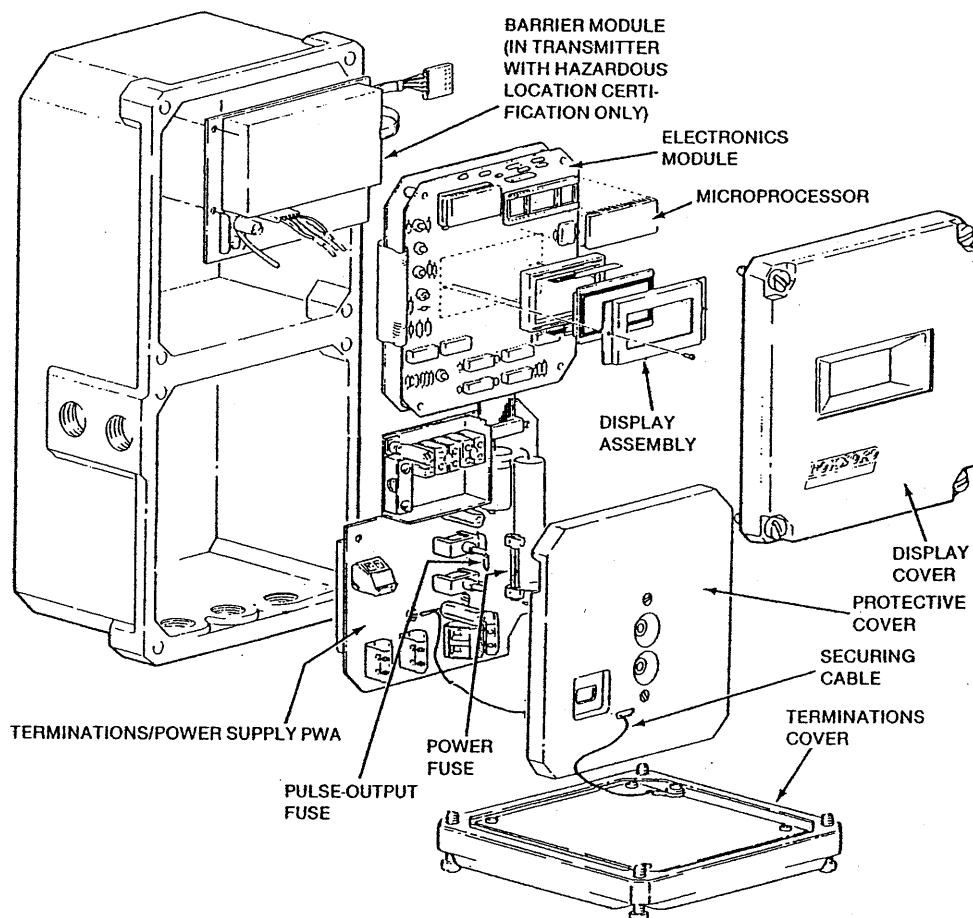
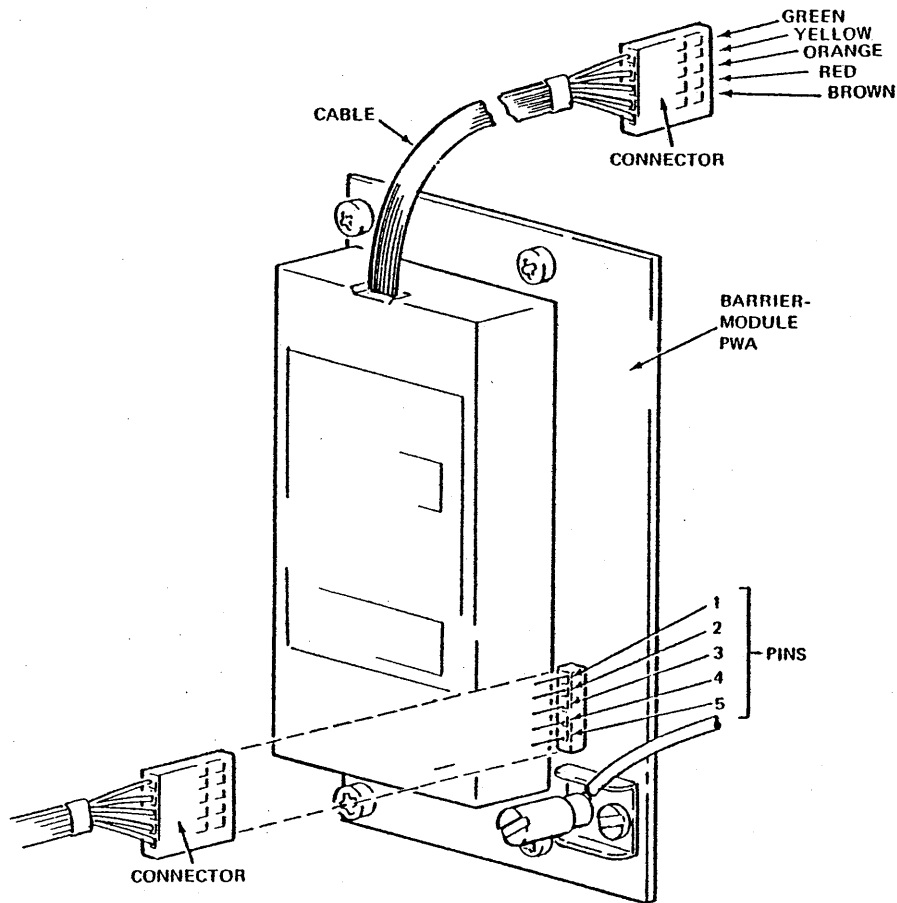

Figure 2.
Figure 4.
Defective flanged-body flowtubes can either be replaced by the user or returned to Foxboro for repair. For repair, the user may call Foxboro Repair Services, (800) 441-6014, for return authorization. The locations of replaceable modules inside the transmitter are shown in Figure 2.
The optional barrier module is located inside the transmitter as shown in Figure 2. This test checks for open circuits inside the module. Measure resistance between pins on printed wiring assembly (PWA) and connector on cable as shown in Figure 4 and Table 4. If any measurement indicates an open circuit or if other barrier fault is suspected, install a new barrier module.